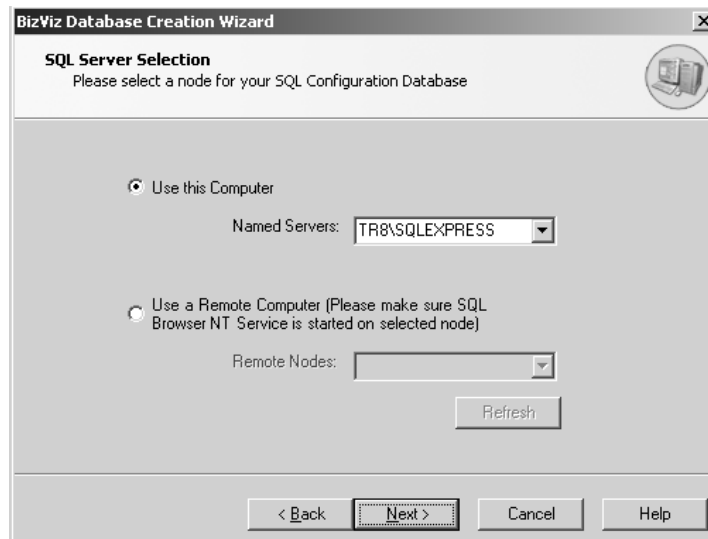

Figure L2.3 - Selecting Local SQL Server
3. Select **Use this computer**, as shown in Figure L2.3 and click on the **Next** button to continue.